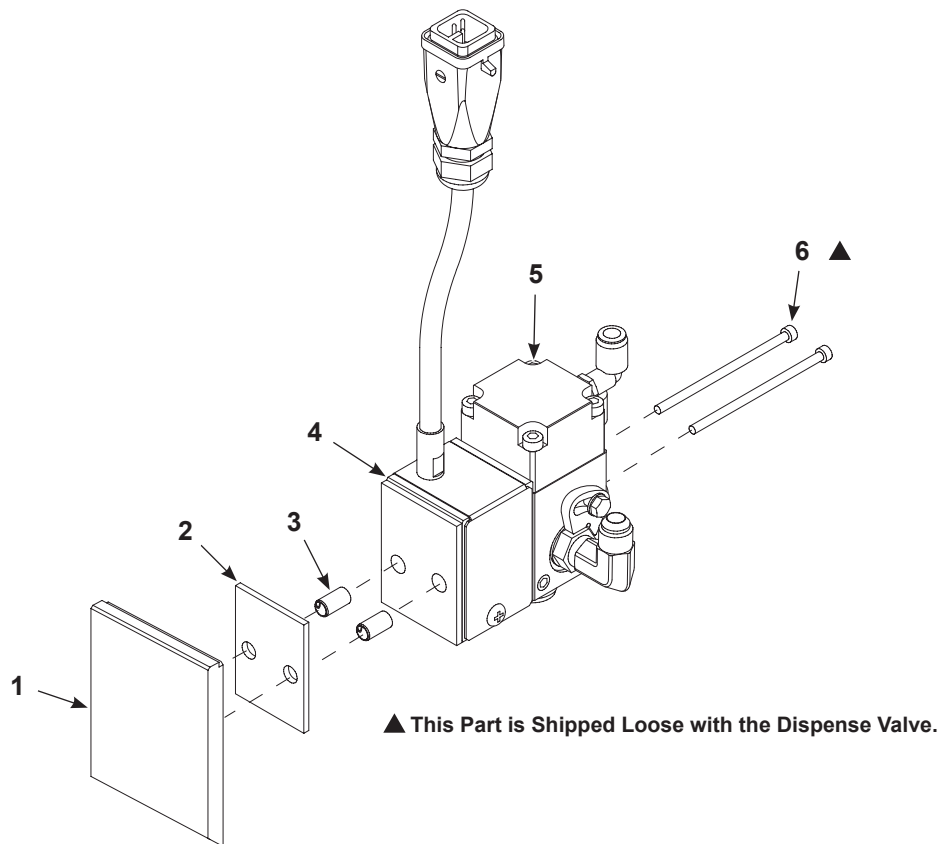

Figure 7 Heater Block Assembly Installation
2. See Figure 7. Insert the dowel pins (3) into the heater block (4).
3. Align insulator plate (2) over dowel pins and attach to heater block (4).
4. Align the heater block to the applicable fixture (1) using the dowel pins.
5. Hold the heater block (4) in place and mount the dispense valve (5) onto the heater block by aligning the dowel pins.
6. Install the dispense valve (5) onto the heater block and applicable fixture by inserting the long screws (6) provided with the heater block. Tighten the screws to 60 in.-lb (6.7 N•m).